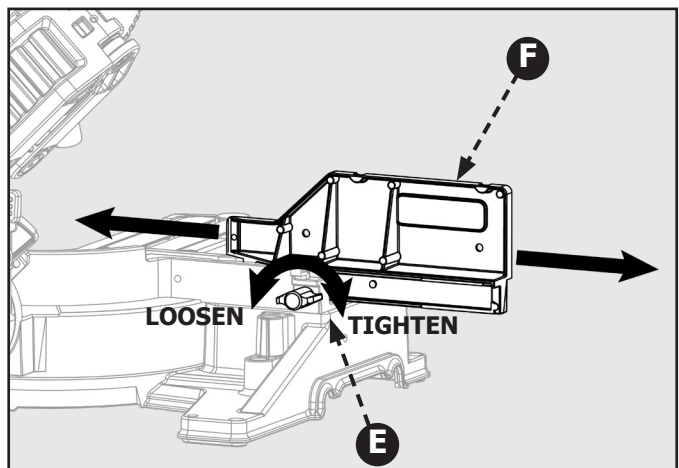

Figure 34
This saw is equipped with an adjustable extension fence. To extend or retract the fence refer to Figure 34 and follow these instructions: Loosen the lock knob (E) by rotating counterclockwise and the slide the fence (F) into the desired position. Make sure to re-tighten lock knob (E) by rotating clockwise.